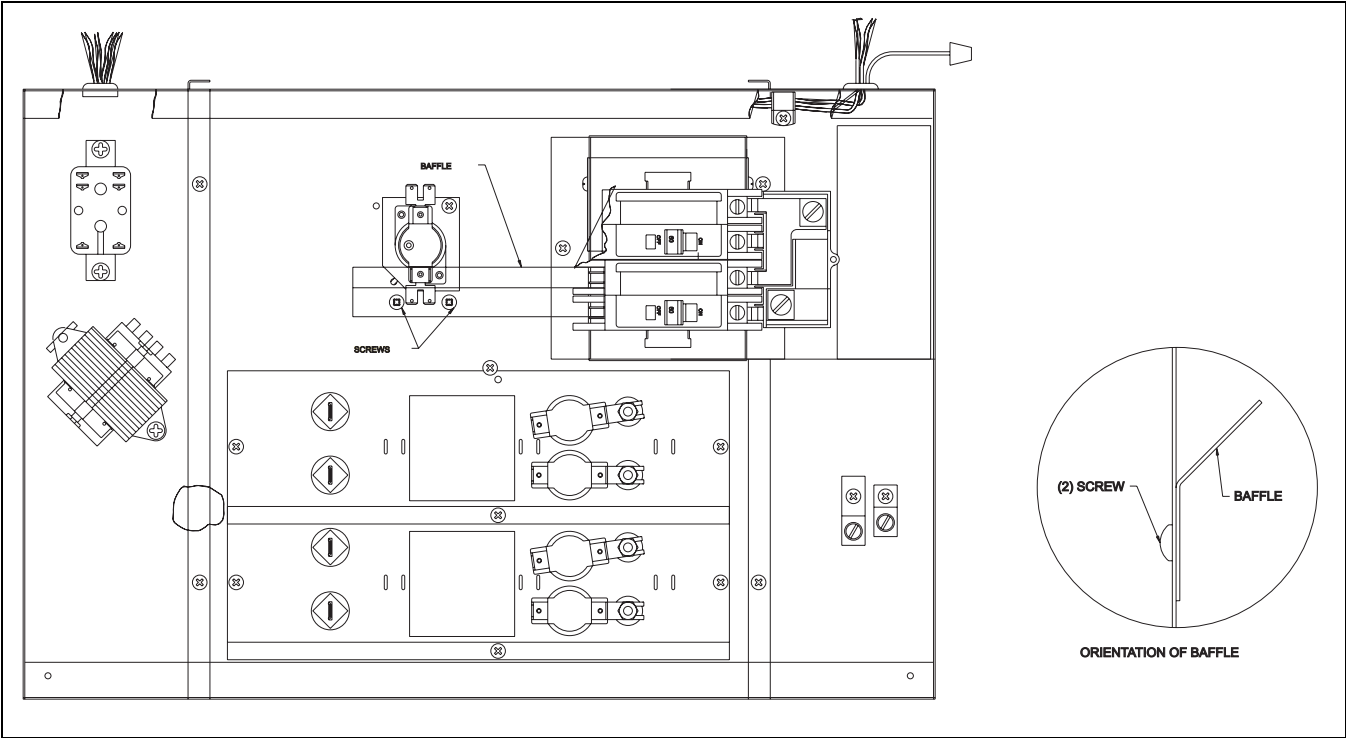

FIGURE 11
2. Install upflow baffle inside the heater chute as shown in Figure 11 using two screws provided. Holes are already provided in the furnace.